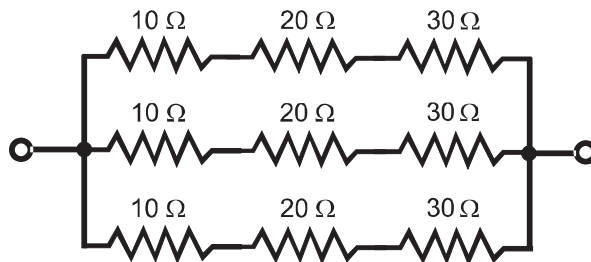

Fig. 1-11. Illustration for Quiz Questions 2 through 5.
2. What is the DC resistance between the two end terminals of the series-parallel network shown in Fig. 1-11?
3. Suppose a battery that supplies 6 V is connected to the end terminals of the series-parallel resistive network shown in Fig. 1-11. What is the current through the 10  $\Omega$  resistor at the upper left?
4. Suppose a battery that supplies 12 V is connected to the end terminals of the series-parallel resistive network shown in Fig. 1-11. What is the voltage across the 20  $\Omega$  resistor at the center?
5. Suppose a battery that supplies 24 V is connected to the end terminals of the series-parallel resistive network shown in Fig. 1-11. What is the power dissipated by the 30  $\Omega$  resistor at the lower right?